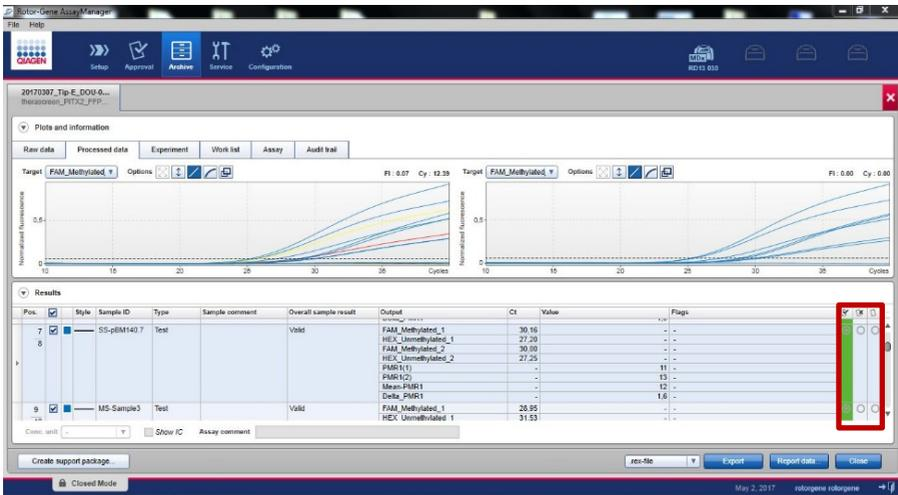

Figure 13. Amplification Curve checking.
3. Check the amplification curves for each sample, tick the first box on the right side of the “flags” column (the box becomes green) (Figure 13).